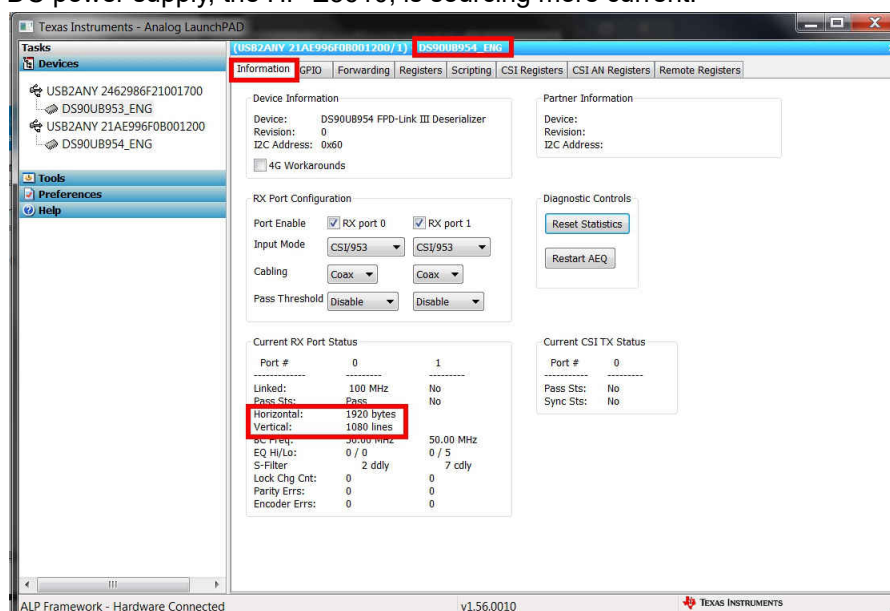

Figure 3-39. Verifying Camera Initialization in ALP
7. Verify that the pattern has been enabled navigating to the information tab on the DS90UB954 (or variant), and checking to the horizontal and vertical parameters for the appropriate resolution defined by the camera. Figure 3-39 shows 3840 bytes and 1080 lines for the horizontal and vertical parameters, respectively. Also, verify that the DC power supply, the HP E3610, is sourcing more current.